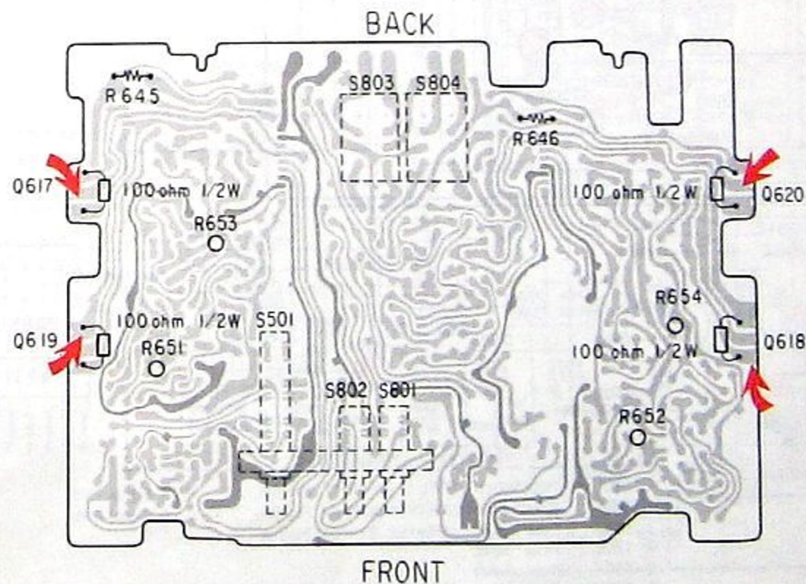

Figure 9.
1. Connect the DC voltmeter to the both terminals of R645 (Rch.) and R646 (Lch.) and check the meter oscillation is kept within from 1mV to 2mV. See figure 9.